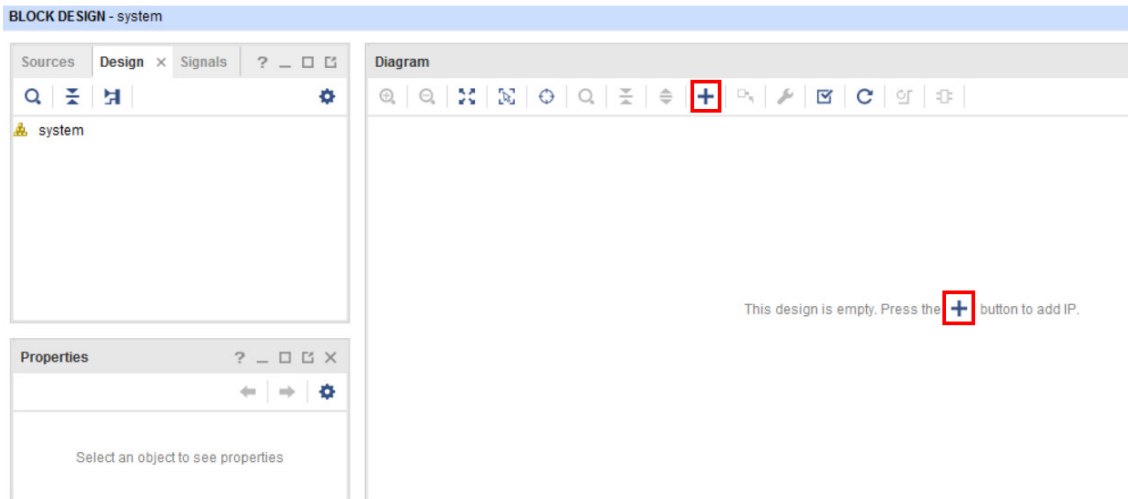

Figure 4: Adding an IP to the diagram workspace
3. Next, click on the **ADD IP** icon by selecting one of the icons shown in Figure 4. Or you can press **CTRL+I** to add an IP into the empty diagram workspace.